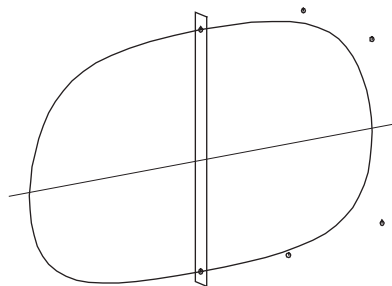

Fig. 11
- 3  (Zoom to Fit) (Fig. 11) This should match our distribution model TANPLANE2.sldprt.